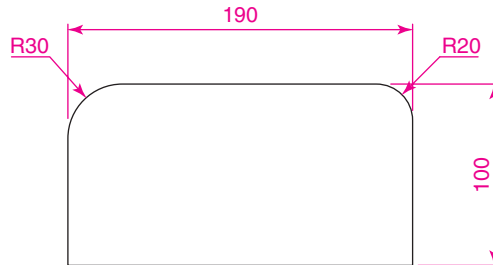

Fig. 6.6 Third example – Radius dimension
Third example – Radius Dimension (Fig. 6.6)
4. Continue dimensioning the outline as shown in Fig. 6.6.